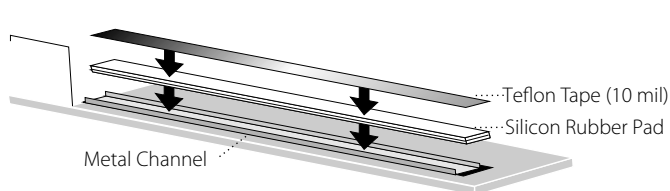

FIGURE 1
2. Place new silicone rubber pad inside metal channel. (See Figure 1.)
4. Apply teflon tape (10 mil) to top of silicone rubber pad. (See Figure 1.)